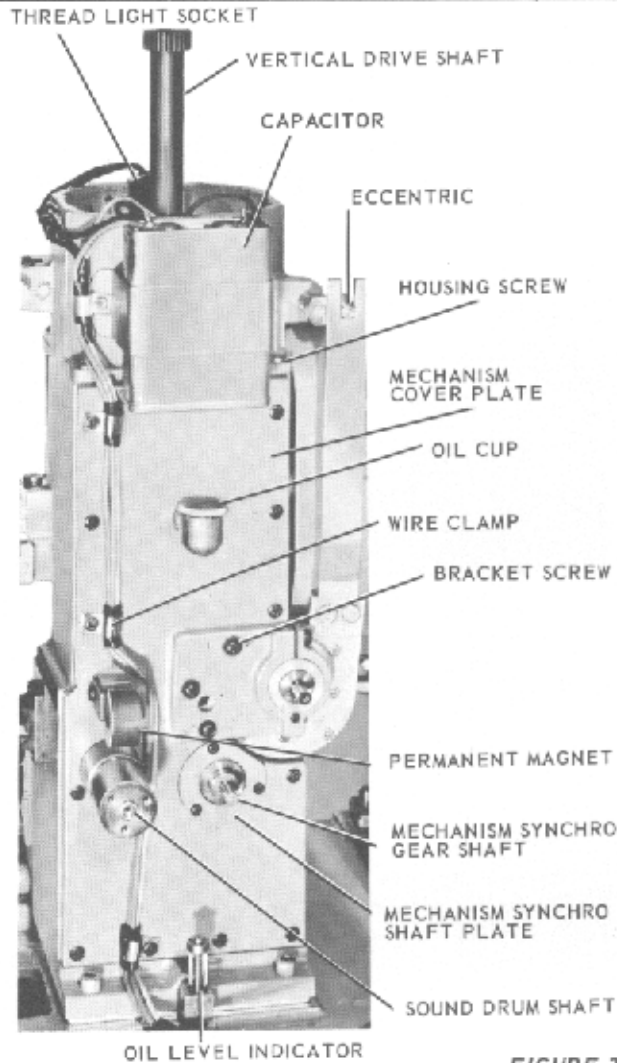

FIGURE 21
a. Remove the CAPACITOR, figure 21, and THREAD LIGHT SOCKET. Disconnect the stator leads.
- a. Remove the three WIRE CLAMPS, figure 21.
f. Remove all screws holding the MECHANISM COVER PLATE, figure 21, and remove the plate. Be careful of the SOUND DRUM SHAFT and the PERMANENT MAGNET. The
b. If a new cover plate is to be installed, assemble the OIL CUP, figure 21, to the new plate and use sealing compound. Place a new gasket on the main casting, but seal only on the side toward the main casting.
f. Tighten the three BRACKETSCREWS, figure 21, in the intermittent mounting bracket. Remove the intermittent motor again and slip out the plug gage.